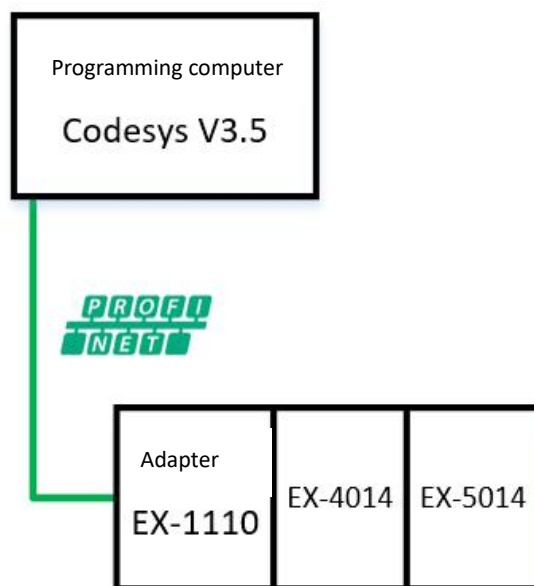

Figure 5-2-31 Communication connection diagram.
1. Communication connection diagram, as shown in Figure 5-2-31.